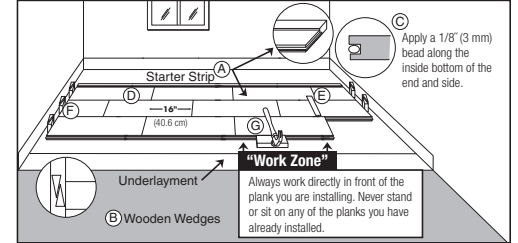

Figure 14
- Select the first board. All installations should begin with the groove side against the wall using the longest boards available. Apply a continuous 1/8" (3 mm) glue bead to the inside bottom of the groove on the end of the board. Do not apply glue to the groove side at this time (Item C, Figure 14). Products with the end tongue on the left should be installed right to left, opposite tongues should be left to right. (Item D, Figure 14). If a sacrificial board was used DO NOT glue the first row to it.
- Complete the first row. Cut the last board allowing for 1/2" (13 mm) clearance between the wall and the floor. (Use the remaining end of the cut board as a starter board for any row following row three). Install a wedge on the end of the board between the hardwood flooring and the wall, allowing 1/2" (13 mm) expansion space. Avoid installation of any boards shorter than 16" (40.6 cm) in the first four rows. (Item F, Figure 14).
- Use a pull bar to pull the last board into place from the opposite end. Install wedges into the gap and tighten (Item B, Figure 14).
- Cut or use a shorter board for the first board of the second row. Start the second row by applying a 1/8" (3 mm) bead along the inside bottom of the end and side groove of the next board and install. When installing boards together, use a tapping block against the tongue, not the groove (Item G, Figure 14). Tap the boards into place by tapping with a hammer on the tapping block. DO NOT tap on the edge directly with the hammer. Complete the second through fourth rows using this technique. Insert wedges on the ends, as necessary, to restrain the movement of the floor.